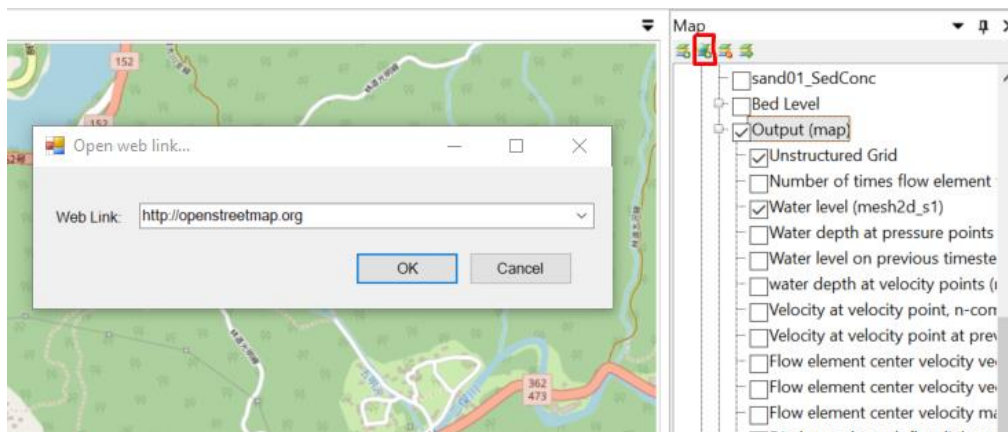

Figure 3.2 Activating Open street map (or other maps like Bing map)
- You may also click on the Open-street map to see the simulated results on it (if it is not there, you can activate by clicking in an icon at “Map” window as shown in Figure 3.2).